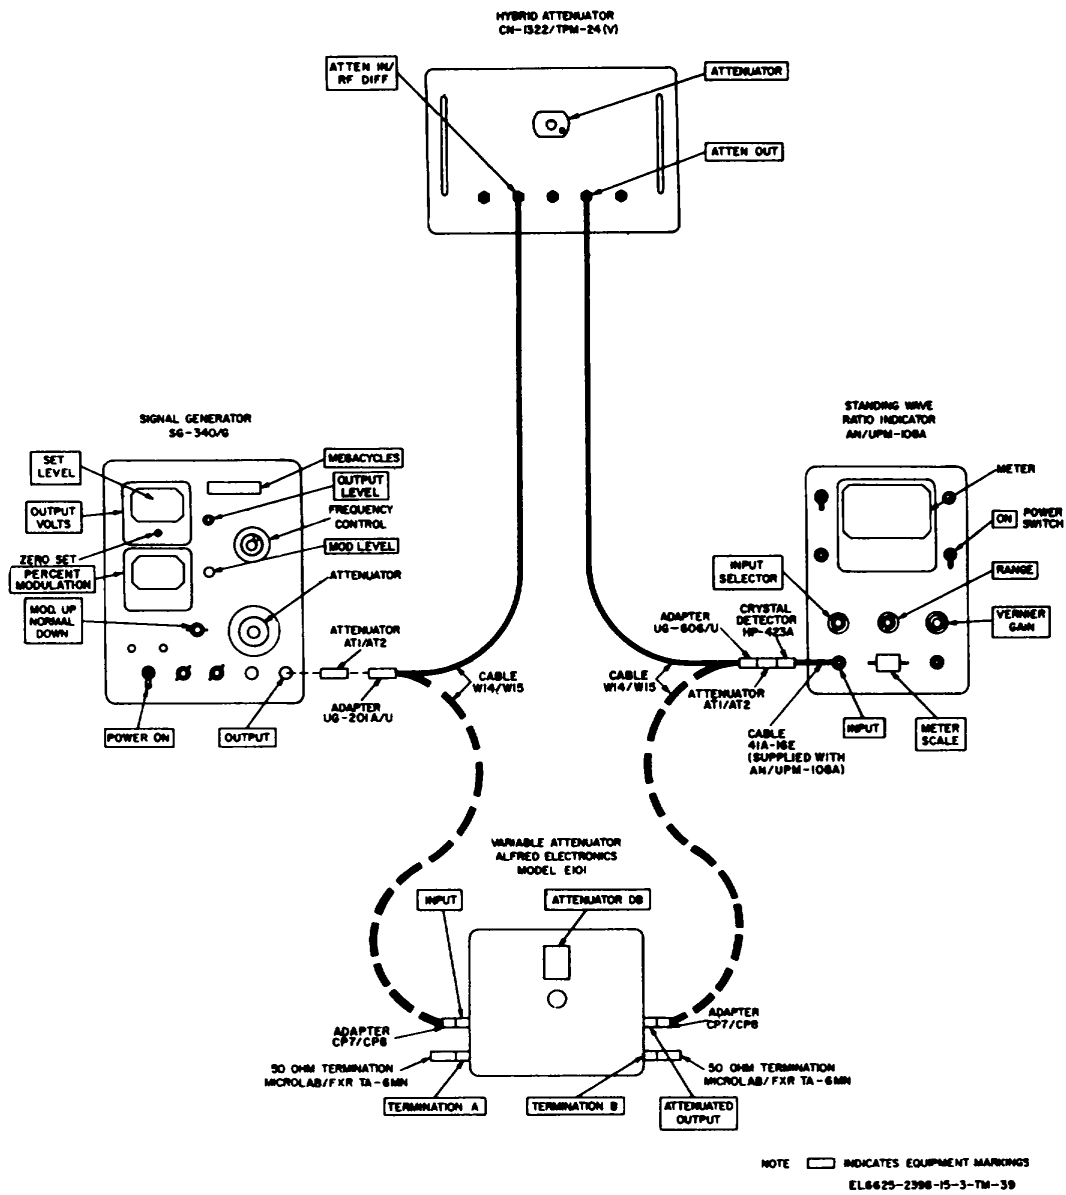

Figure 8-5. Hybrid attenuator calibration, test connections.
- (9) Cables W14/W15(2).
- (10) Cable A1W3.
- (11) Adapter UG-606/U.
*b. Test Connections and Conditions.* Initially connect the equipment as shown in solid lines, figure 8-5. Disconnect the hybrid attenuator and connect the variable attenuator (connections shown in broken lines) as directed in the procedure below.